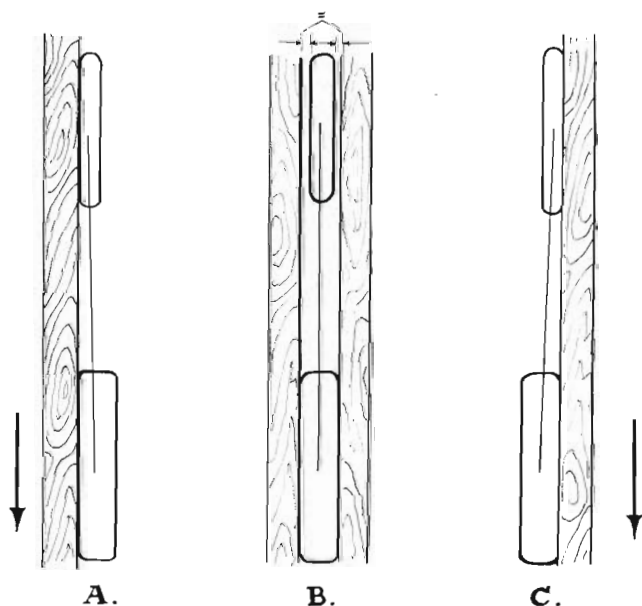

FIG. F.21. *Checking alignment.*
If the front tyre is of smaller section then it should be as drawing (B) Fig. F.21.